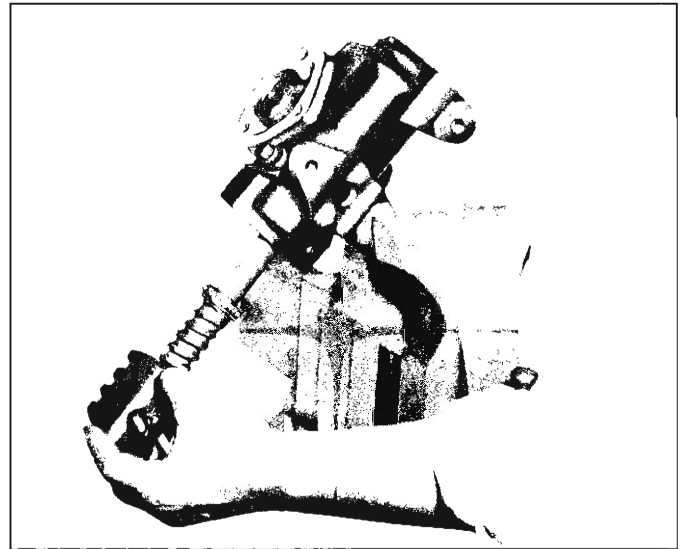

Fig. 46—Removing Wormshaft and Ball Nut
6. Draw wormshaft and nut assembly from housing (fig. 46). Remove upper ball bearing.